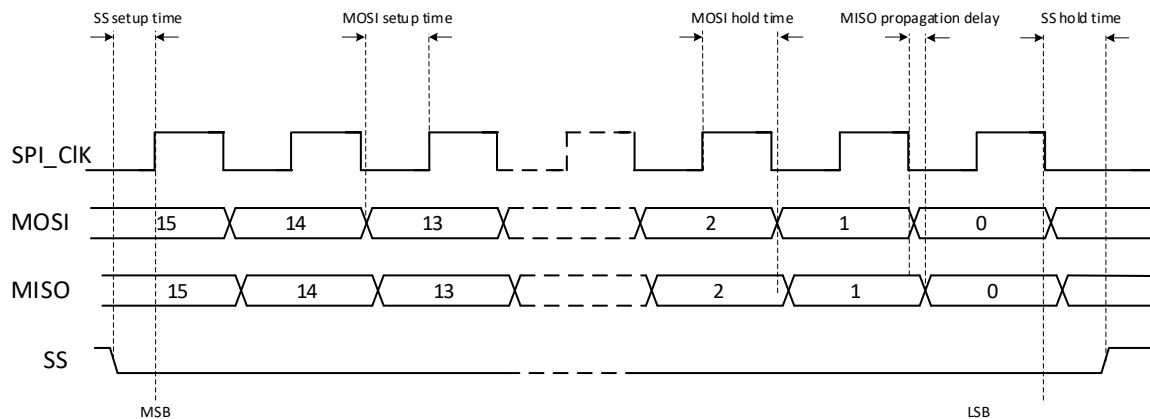

Figure 5.2. Timing diagram of SPI, CPOL=0 and CPHA=0.
The serial data transfer input (MOSI) and output (MISO) to the A121 are synchronized by the SPI\_CLK. The Slave Select signal (SS) must be low before and during transactions. The MOSI is always read on the rising edge of SCLK and the MISO changes value on the falling edge of SPI\_CLK (SPI mode 0, CPOL/CPHA = 0). SS requires release in between transactions. See Figure 5.2~~Figure 5.2~~ and Table 12 for timing characteristics.